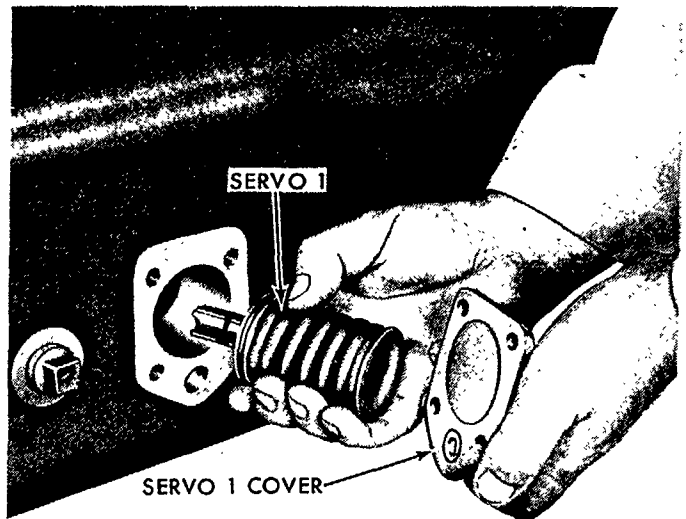

Figure 76
18. Remove the four servo 1 cover attaching bolts and remove the cover and servo from the transmission as shown in Figure 76.
5. Install servo 1 assembly in the case with the slot in the horizontal position, as shown in Figure 76. Install the servo cover.